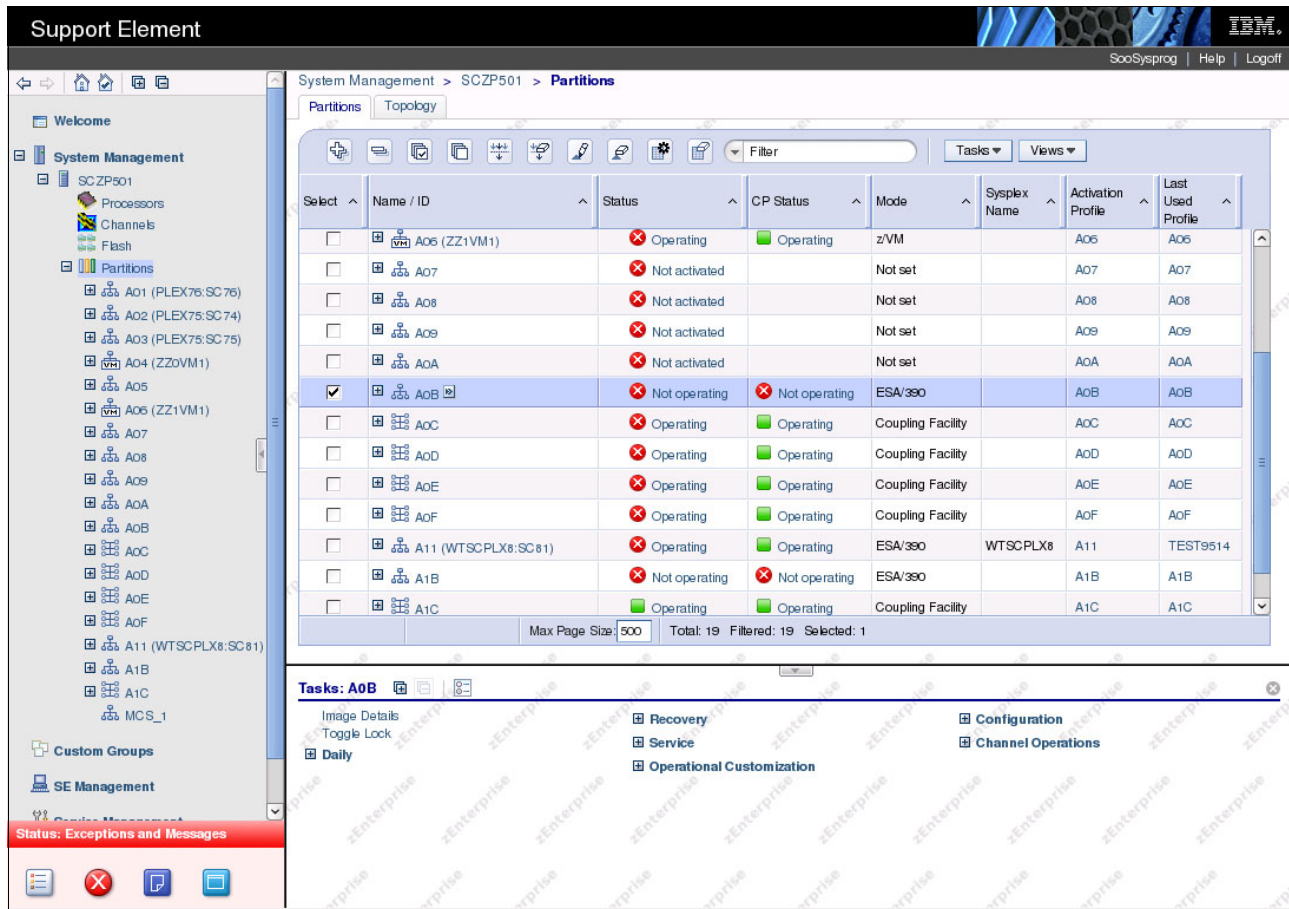

Figure 6-128 HMC - SAI0CP: partition selected for SAI0CP program load
- Under Partitions, select the LPAR you want to use to run the Stand-Alone IOCP program (in this example, A0B) as shown in Figure 6-128.